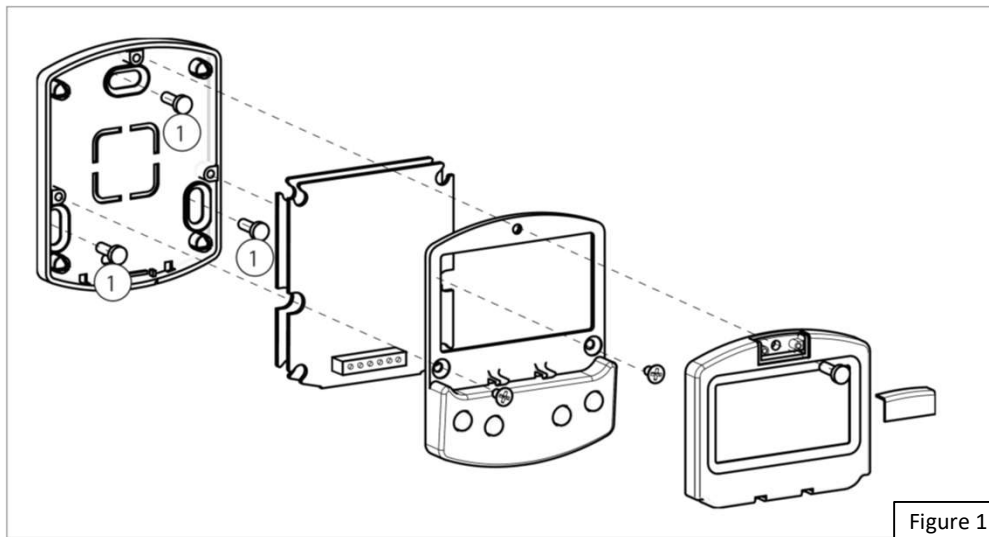

Figure 1
1. Disassemble the parts (?Fig. 1).
3. The AUTO-PROG may be used as a handheld device or fixed to a surface. If a fixed location is desired, determine the position and attach it using the slotted mounting holes & suitable screws (Fig. 1 (1)).
5. Reassemble the parts indicated in (?Fig. 1).